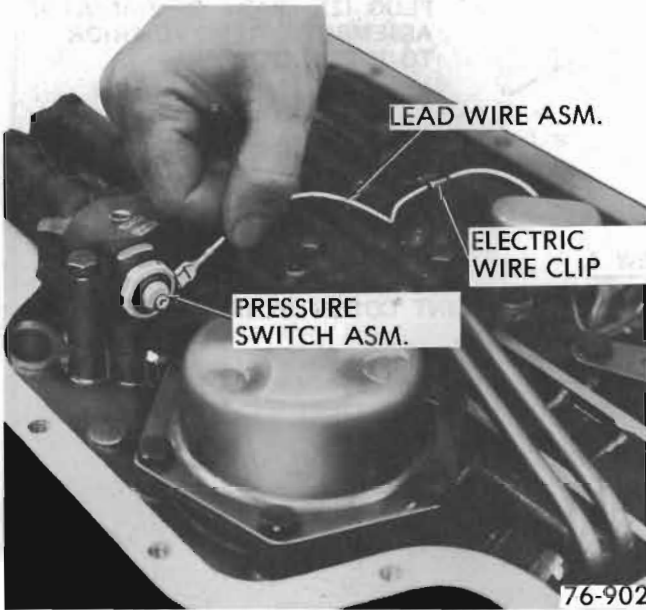

Figure 76-57
1. Disconnect the lead wire assembly from the pressure switch assembly. See Figure 76-57.